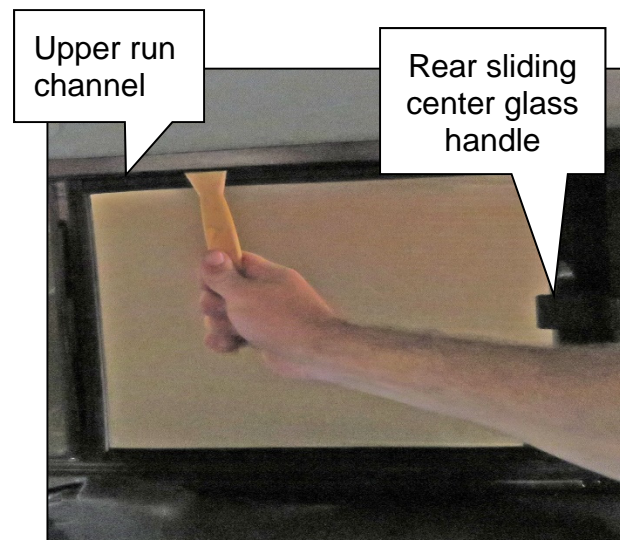

Figure 22
- e. Using a finesse tool or similar, push upward on the upper run channel to fully seat it in the window channel (Figure 22).
- f. Test the rear sliding center glass seals by opening and closing the rear sliding center glass five (5) times.